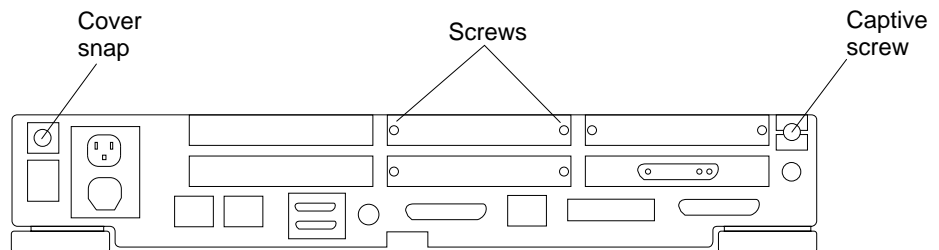

Figure 4-1 SPARCstation 10 System Rear Panel
See Figure 4-1.
- 9. Install the screws and washers that you removed from the filler plates.** See Figure 4-1. These screws and washers need to be installed for compliance reasons.